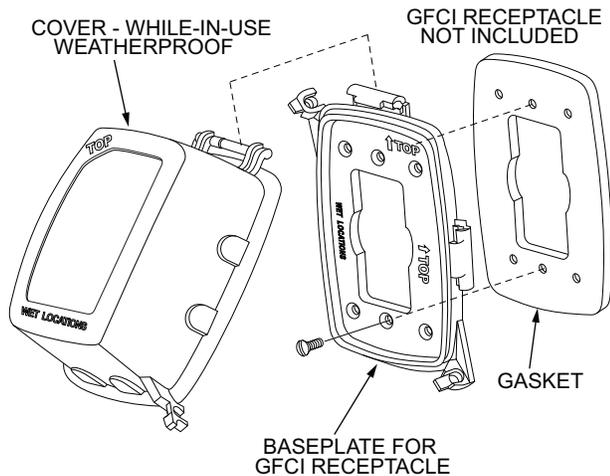

Fig. 25 — Weatherproof Cover Installation
4. Mount the weatherproof cover to the backing plate as shown in Fig. 25.